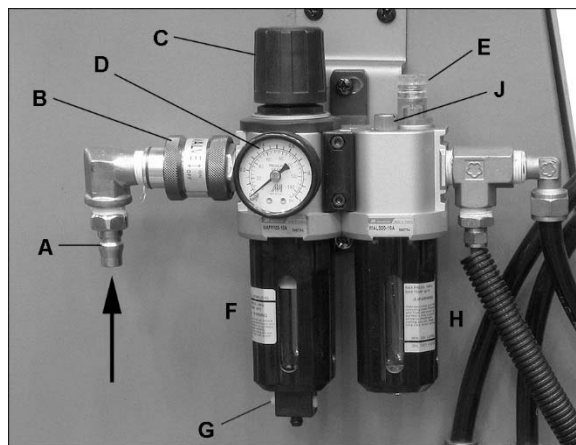

Figure 5-2: air adjustments
NOTE: Lubricator bowl (H, Figure 5-2) is not supplied with oil. Fill bowl to indicator line before operating notcher.
1. Make sure air compressor supplies clean, dry air at correct CFM for the machine. Blow out air supply line to remove any dirt or moisture, and connect hose to fitting (A, Figure 5-2) using a quick-connect coupling. Hose should be just long enough to serve the working area. Excessive hose length may cause pressure drop.
2. Turn off air with sliding valve (see B, Figure 5-2) and bleed residual air from system (see G, Figure 5-2).
4. Periodically check filter/regulator bowl (F, Figure 5-2) for fluids or sediment accumulation, and empty if needed. Bowl should be emptied before fluid reaches maximum drain level as indicated on bowl. To remove a bowl, shut off air supply and push pin (G, Figure 5-2) to bleed excess air. Then press tab, rotate bowl to the left, and pull bowl down. Reverse procedure to reinstall bowl. *Make sure bowl is locked in position before applying air to the system!*
5. Maintain oil level in lubricator bowl (H, Figure 5-2); top off as needed with ISO 32 (SAE 10) non-detergent, non-additive oil. Remove screw (J, Figure 5-2) with screwdriver to fill.